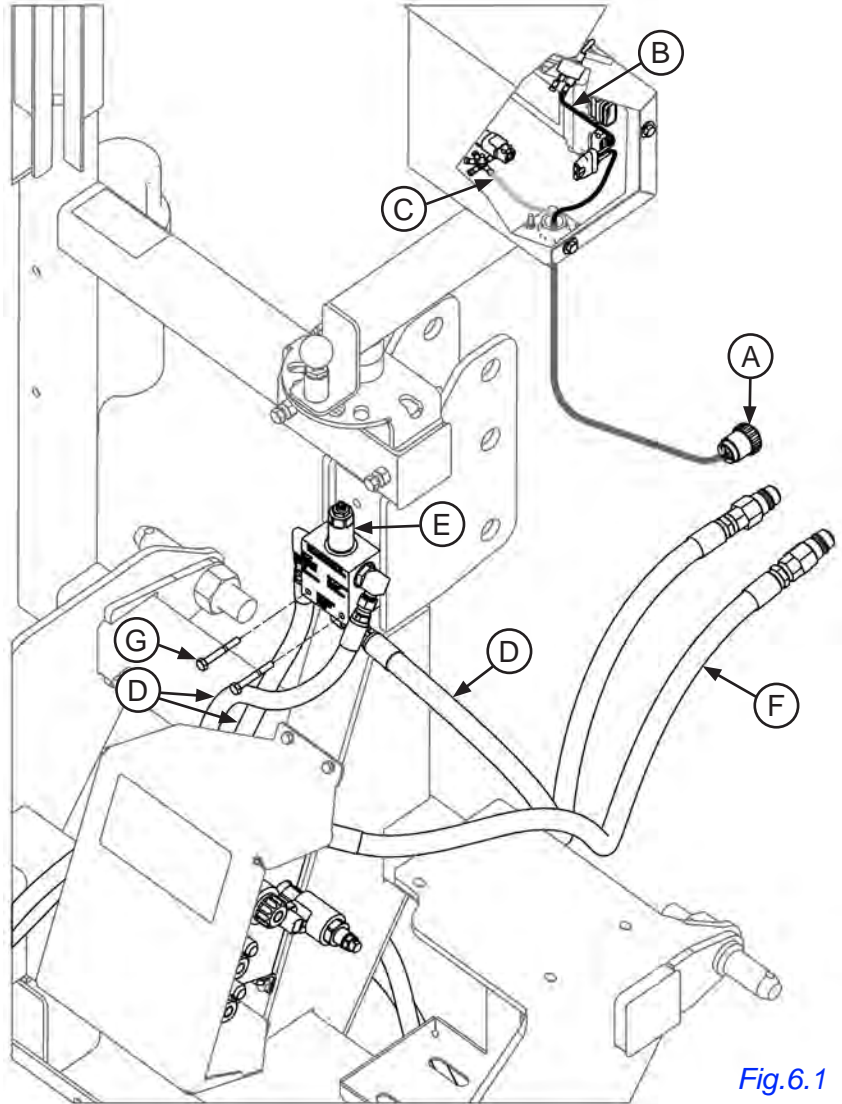
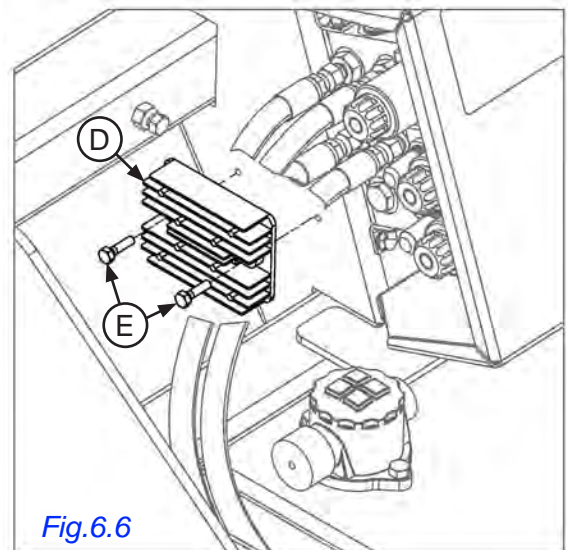

Fig.6.1
Fig.6.6
5. Mount rectifier (D) to matching threaded holes on left side of center frame tube using 2 1/4" x 1" hex bolts (E). Clip plug to matching plug on engine. See Fig.6.6.
6. Attach red (power) battery cable to positive (+) battery terminal to engine starter (F).
7. Attach black (ground) battery cable from negative (-) battery terminal to engine bolt (G).
8. Route provided power pack wiring harness into control panel through the bottom cable strain relief connector, connecting black wire ring terminal (with fuse holder) to toggle switch and grounding white wire to the control panel box. See Fig.6.1.